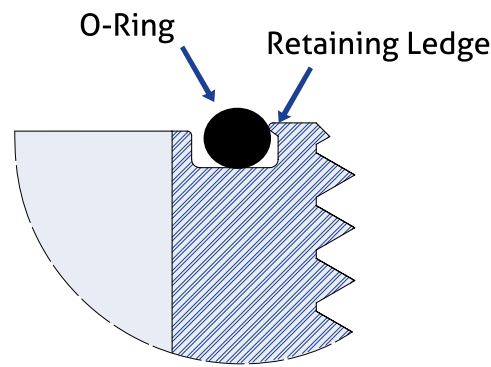

Figure 11 : View of Groove Type B
- Type B: The Type B groove has a retaining ledge (half dovetail) that improves O-ring retention. The Type B style is more commonly found and is a design improvement over the Type A. (Figure 11)